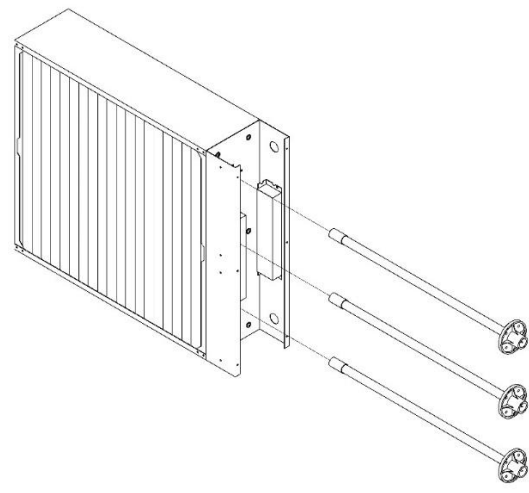

Figure 13
- 10.) Attach ductwork as shown in Figure 13. Insulate the exterior of DT-FP units that are installed in locations that are not climate controlled. These locations include ducts in attics, on top of roofs, and on the side of buildings.
7.) Remove lamps by alternating a quarter turn clockwise and a quarter turn counterclockwise as it is pulled out. This will prevent the lamp from becoming bound up in the catalyst media. See Figure 13.
9.) Replace lamps by alternating a quarter turn clockwise and a quarter turn counterclockwise as it is pushed in. This will prevent the lamp from becoming bound up in the catalyst media. See Figure 13.